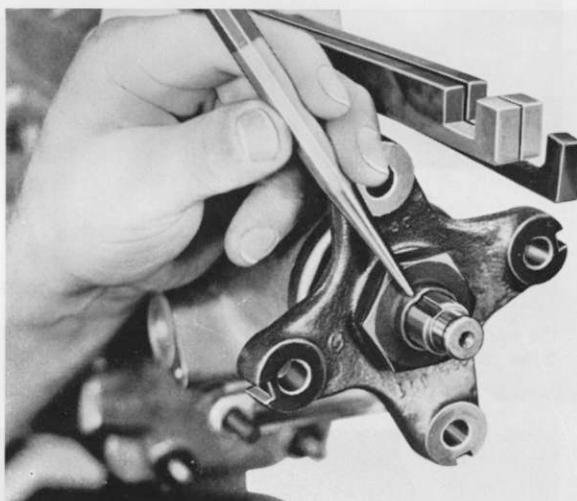

Fig. 60
- Push the output flange (429) onto the mainshaft. Screw nut (430) onto the thread and tighten to 14 to 16 kpm (for this, 2 gears must be engaged). Tap lock tab of nut with a drift into the groove of the mainshaft (Fig. 60).